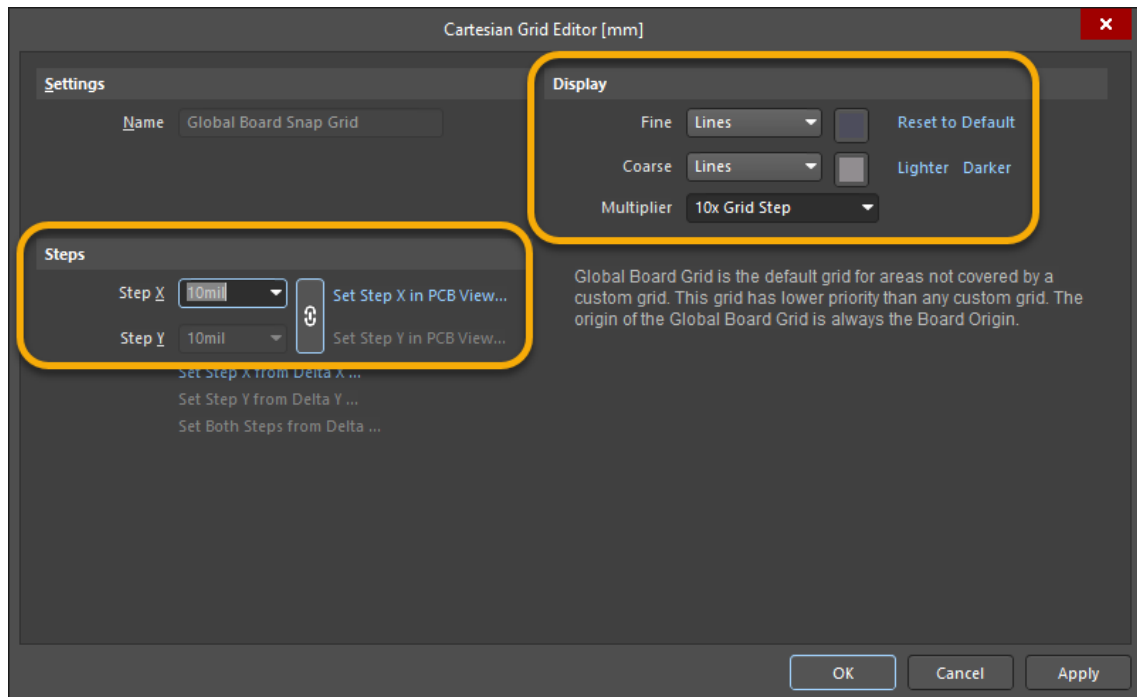

Figure 3. Default Grid Settings
15. Double-click on the *Global Board Snap Grid* name in the *Grid Manager* pane to access the default grid as shown in Figure 3 below. You can also access the Cartesian Grid Editor using the **CTRL+G** shortcut keys.